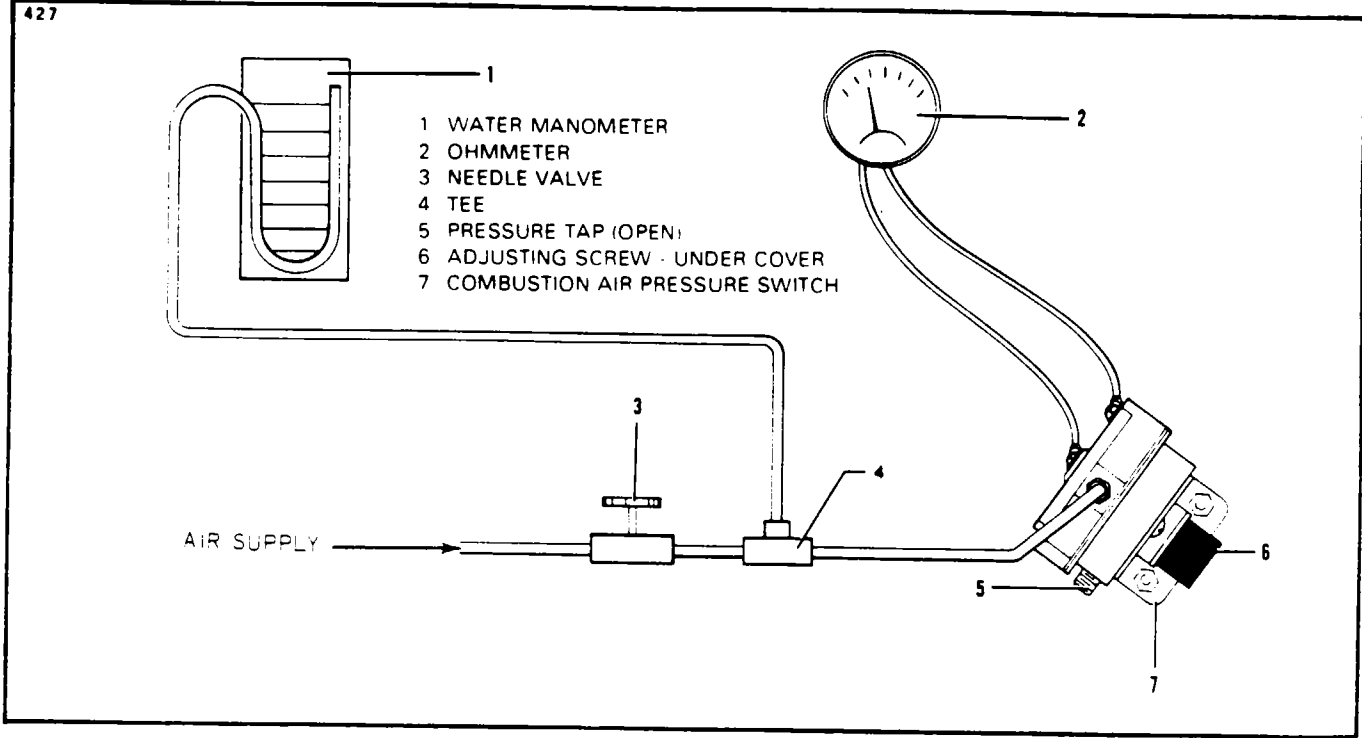

Figure 13-15. Test Setup - Combustion Air Pressure Switch
a. Discard all rubber parts such as grommets, gaskets, etc. These items should always be replaced at overhaul. Also discard the rope gasket (21).
d. The combustion air pressure switch (17) installed on the system must respond to delicate pressure changes and should always be checked and/or replaced at overhaul. (Refer to paragraph 13-43, c and Figure 13-15.)
c. Test the combustion air pressure switch as follows. (Refer to Figure 13-15.)